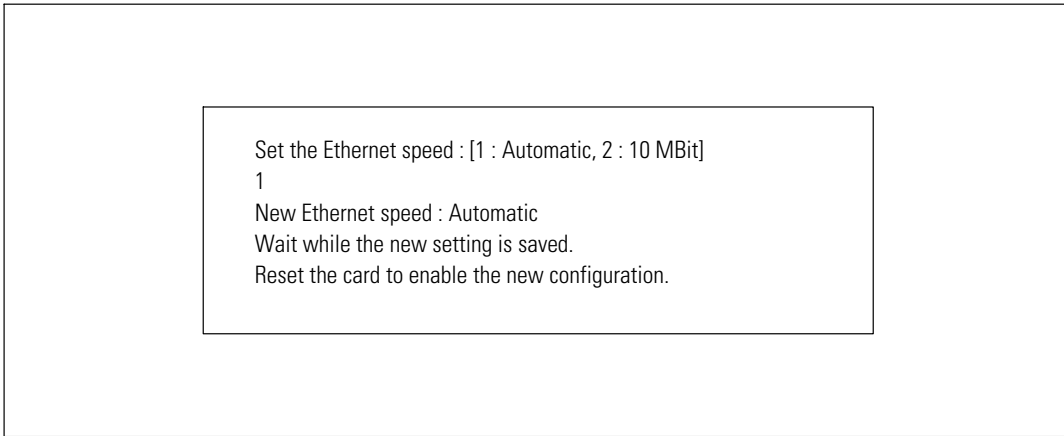

Figure 43. Ethernet Speed Settings
- **Set Ethernet speed:** To change the network speed (see Figure 43). Restart the card to activate the new parameters.